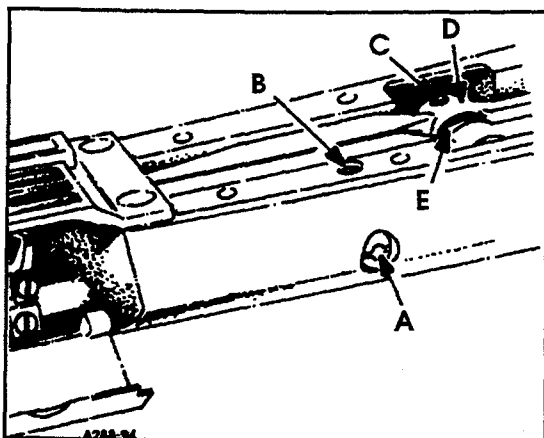
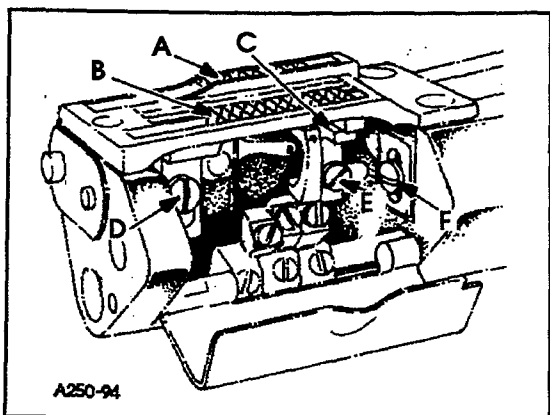

FIG. 10
FIG. 11
Before assembling the main and differential feed dogs, set the feed bar eccentric pin (A, Fig. 10) located in the left side near center of cylinder, so that the slot in the head is in a horizontal position. This assures a neutral position of eccentricity for the purpose of raising or lowering the height of the main and differential feed bars simultaneously. The feed bar pin is retained in position by set screw (B). Assemble differential feed dog (A, Fig. 11), main feed dog (B) and throat plate. Both the main and differential feed dogs can be individually adjusted to height. Main feed dog (B) at its highest position, should be set to project above the throat plate, slightly more than the depth of its teeth on Style 35800DLW and slightly more than the depth of its lower teeth on Styles 35800DWW, DWL. If adjustment is necessary loosen screw (D) and move feed dog (B) up or down to attain correct setting. Feed dog support (C) should support front of feed dog. If adjustment is necessary loosen screw (E) in feed dog support (C) and move as required. Retighten screw (E). The differential feed dog (A) may then be leveled with main feed dog (B). If adjustment is necessary loosen screw (F) and move feed dog up or down as required. Retighten screw (F).
**NOTE:** Should the main feed dog require repositioning due to contact with the throat plate in its forward or rearward travel, loosen set screw (C, Fig. 10) in main feed bar driving link (D), rotate main feed bar eccentric driving stud (E) as required. Driving stud (E) has a thin hexagon head with cutouts on two of the flats allowing movement by tapping with a sharp pointed tool, when wrench 21388AZ is not available. Whenever the main feed bar eccentric driving stud position has been changed, recheck rear needle guard setting, adjustment may be required. Retighten set screw (C). Position main feed dog support (C, Fig. 11) flush against bottom of main feed dog (B), tighten support screw (D) securely.